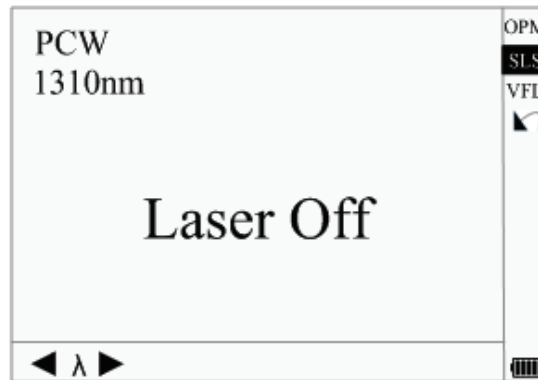

Figure 4-12. Stabilized Laser Source
1. Enter PM/LS interface as described in “Power Meter, Laser Source, and VFL Configuration” in Section 3. Use ▲ and ▼ to highlight “SLS”, and press Enter to enter SLS interface (Figure 4-12).